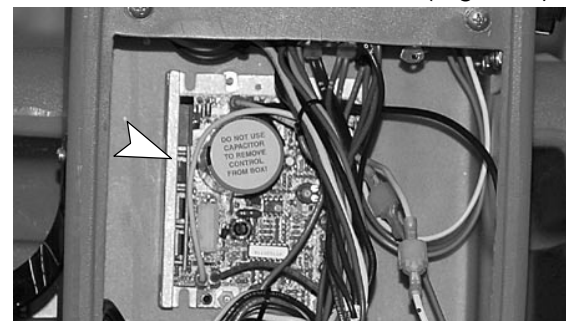

Fig. 5
6. Mount the new control board to the control console as shown. Use existing nylon nuts and screws to mount the board (Figure 5).